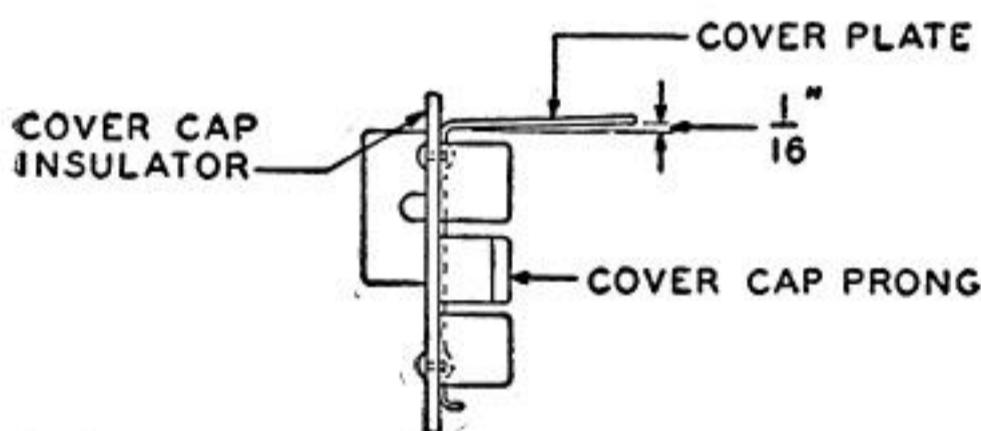

Fig. 101—Cover Cap—239 Type Relay
- 1.02 **Cover Cap:** The outer end of 239 type relay cover plate shall be approximately $\frac{1}{16}$ " above a line as shown in Fig. 101.